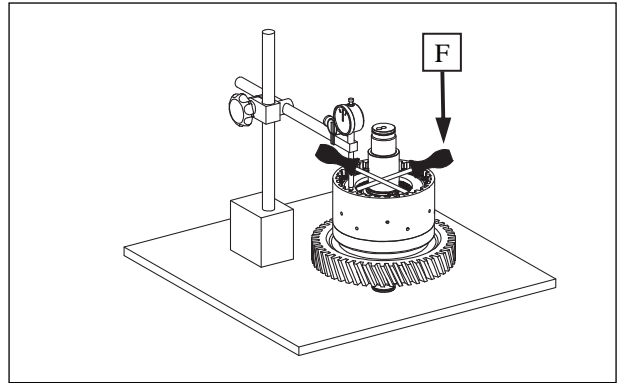

Figure 15
**Contact for axial bearing . see Figure 15!**